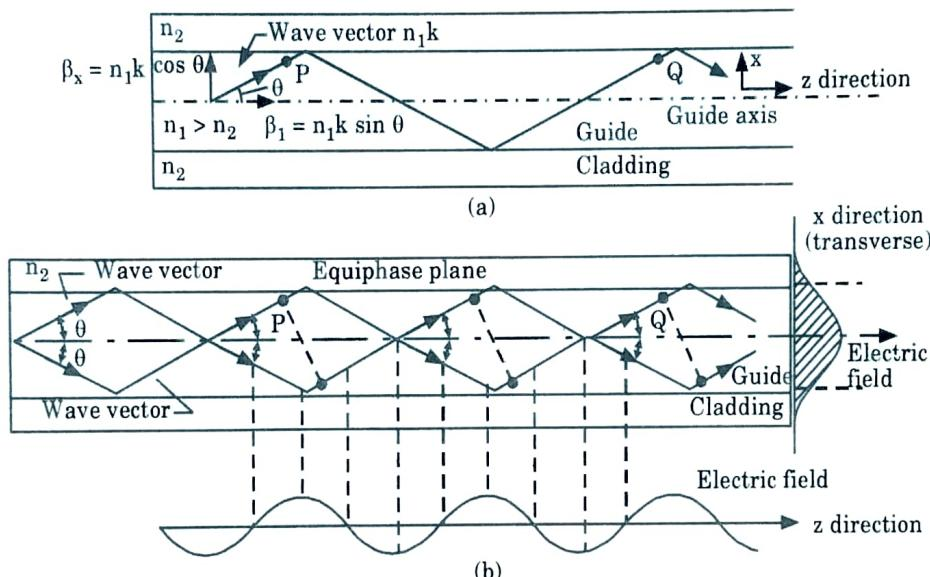

Fig. 1.13.1. The formation of a mode in a planar dielectric guide.
3. A plane monochromatic wave propagating in the direction of the ray path within the guide as shown in Fig. 1.13.1(a).
two component plane waves propagating in the z and x directions, as shown in Fig. 1.13.1.
- This situation is illustrated in Fig. 1.13.1(b), the optical wave is effectively confined within the guide and the electric field distribution in the x -direction does not change as the wave propagates in the z -direction.
- The sinusoidally varying electric field in the z -direction is also shown in Fig. 1.13.1(b).
- A specific mode is obtained only when the angle between the propagation vectors or the rays and the interface have a particular value, as indicated in Fig. 1.13.1(b).